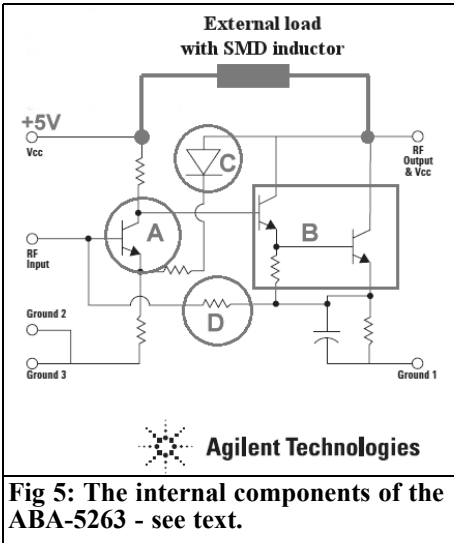

Fig 5: The internal components of the ABA-5263 - see text.
Fig 5 shows a view inside the ABA-52563. It consists of an input amplifier stage (A) in grounded emitter that passes its output signal on to a second emitter follower stage (B). This second stage is arranged as a “Darlington circuit” to increase the input impedance and gain of the stage.